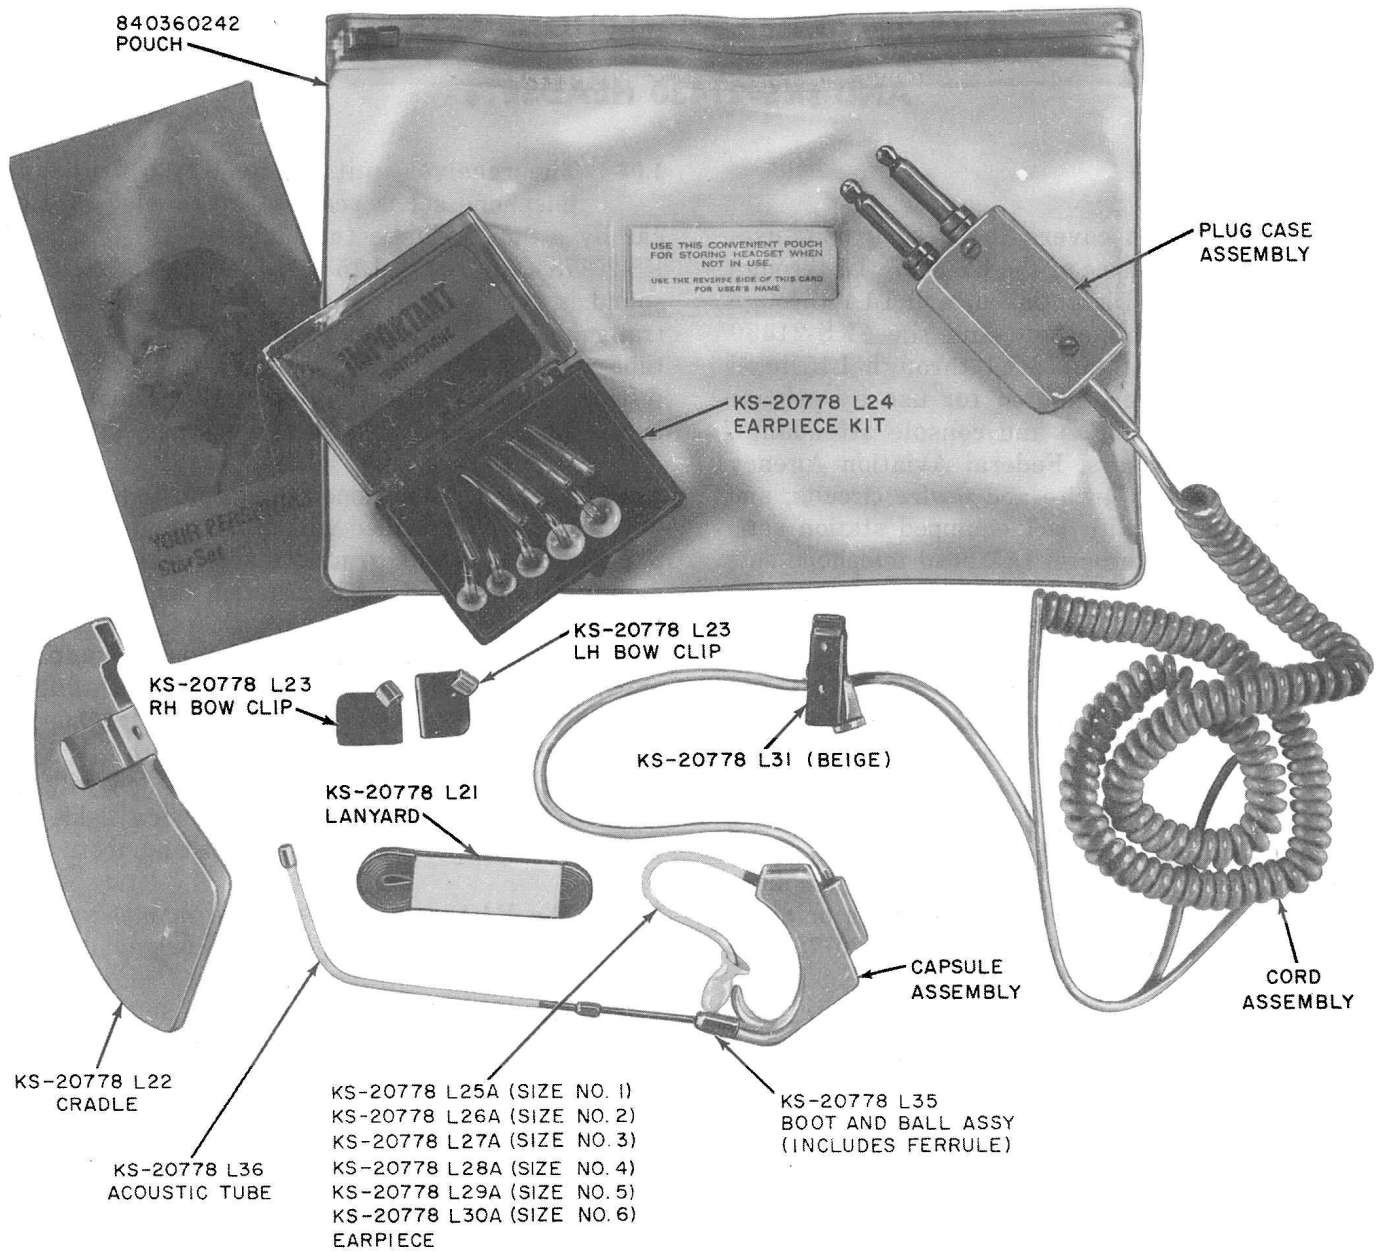

Fig. 1—KS-20778 L1, L2, L1A, L2A, and L16A Head Telephone Sets (L1 Shown)
**1.03** The KS-20778 head telephone set ♦and the KS-21430 headset♦ (Fig. 1, 2, and 3) are lightweight sets which do not require headbands. The sets are held on the head by a flat, plastic capsule shaped to fit behind and around either outer ear or by a clip attached to the user's glasses. A cable clamp is provided to permit the user to anchor the cable to his clothing.
**4.01** Fig. 1, 2, and 3 show the relationship of the various parts of the head telephone sets and headset. The replacement part numbers of these parts are given together with the names as listed by the Western Electric Company Merchandise Department.
**5.01** The only items to be replaced in the field are shown and identified by part number on Fig. 1, 2, and 3. Do not attempt to replace or repair the capsule assembly, switch case assembly, plug case assembly, or cords. These items shall be returned in accordance with local instructions to the Western Electric Company for exchange or repair by the manufacturer. If the receiver, transmitter, and amplifier circuit board fail from normal usage during the 2-year warranty period, the manufacturer will repair or replace the defective item. The date of shipment stamped on the amplifier and capsule cases indicate the warranty effective date. Where field replacement of cords may be locally authorized such as large or attended installations, the KS-21733 L1 test fixture will greatly aid in assembly. For authorized locations, a detailed service manual is available from the manufacturer through Western Electric Company as "Starset\* Service Manual 06480-00."